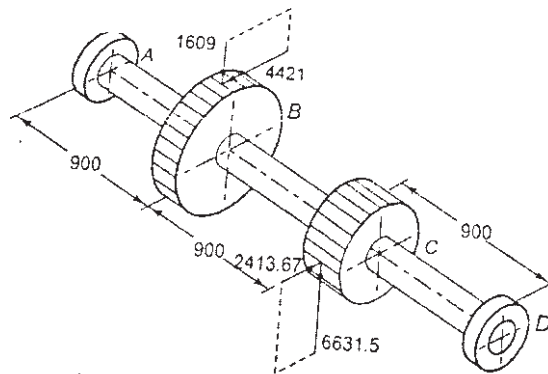

Figure 1. Layout of shaft
- b) The layout of an intermediate shaft of a gear box supporting two spur gears B and C is shown in Figure 1. The shaft is mounted on two bearings A and D. The pitch circle diameters of gears B and C are 900 and 600 mm respectively. The material of the shaft is steel FeE 580 ( $S_{ut} = 770 \text{ N/mm}^2$  and  $S_{yt} = 580 \text{ N/mm}^2$ ). The factors  $k_b$  and  $k_t$  of ASME code are 1.5 and 2.0 respectively. Determine the diameter of shaft using the ASME code. Assume that the gears are connected to the shaft by means of keys. [12]